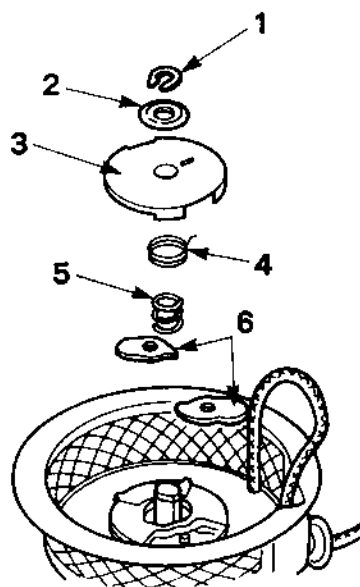
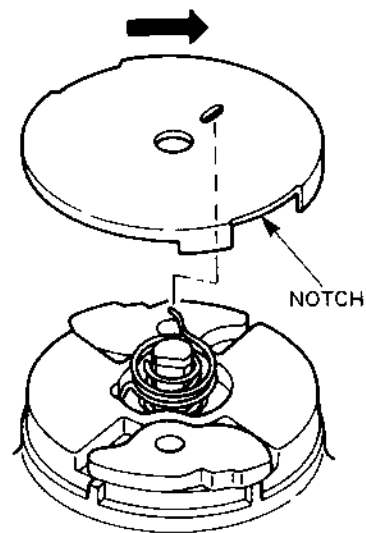

FIG. 80
FIG. 85
(3) When removing, take out the parts in the order of the numbering in Fig. 80.
(4) When reassembling the parts, follow up in the reverse order to Fig.80. When putting the friction plate in the hole for it, set the return spring a little upward as shown in Fig.85 so that the friction plate can easily be put in the hole for it.